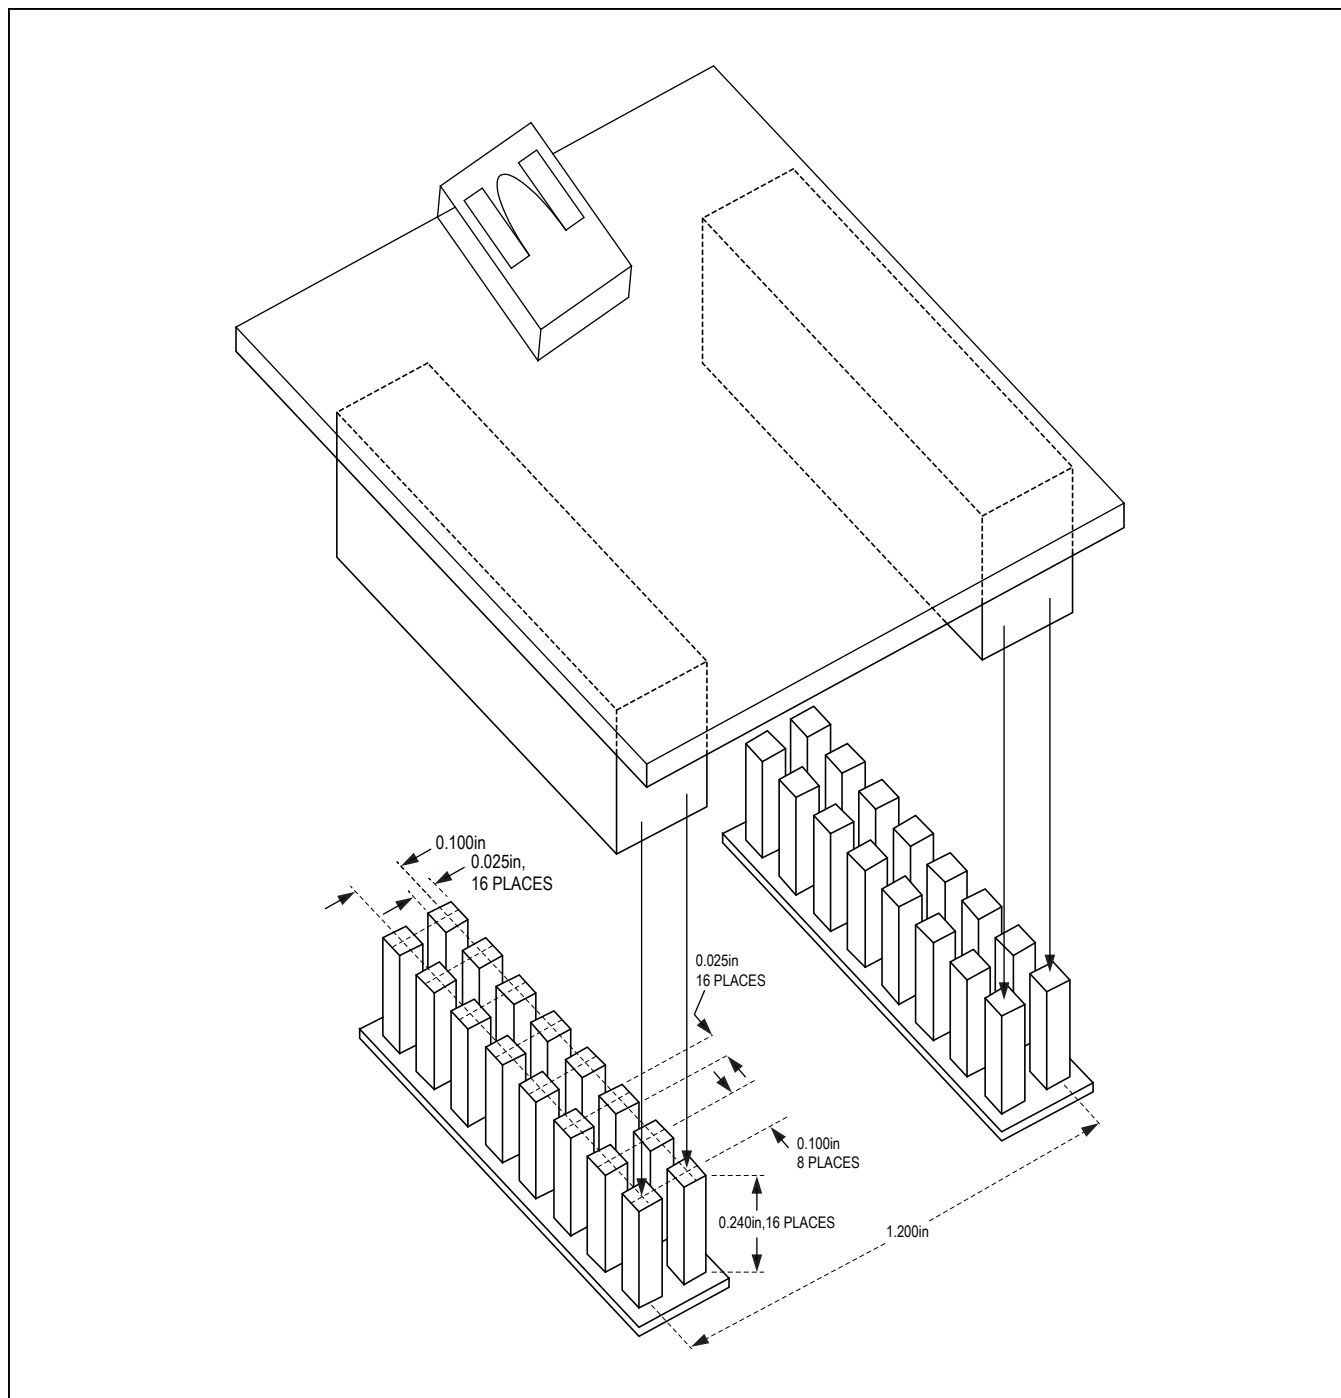

Figure 5. Recommended PCB Connection for DS3900H2
- Place the mating connectors on the circuit board (see Figure 5).